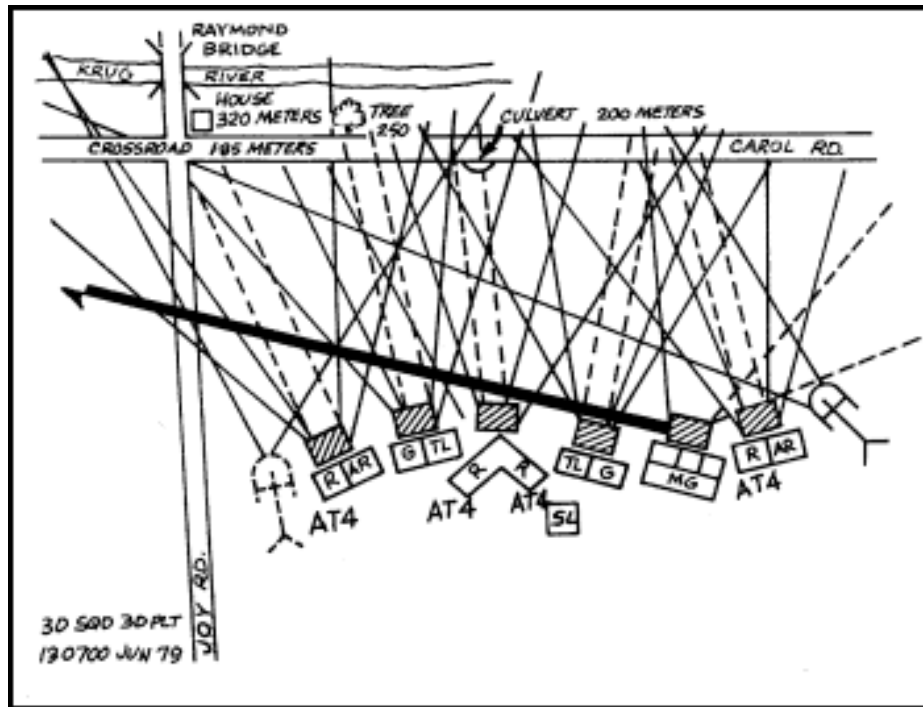

Figure 6-8. Squad sector sketch.
b. The squad and platoon leader's sector sketch identifies TRPs and primary areas of possible engagement. The sector sketch also identifies possible avenues of approach for enemy armored vehicles. Each light antiarmor weapon shares a sector of fire with the primary small-arms weapon assigned to its position. However, because it is neither a primary nor crew-served weapon, the light antiarmor weapon does not require a separate range card. When assigning sectors of fire, squad and platoon leaders inform firers of all possible target areas, TRPs, and prearranged signals (Figure 6-8). (FMs 7-7, 7-7J, and 7-8)